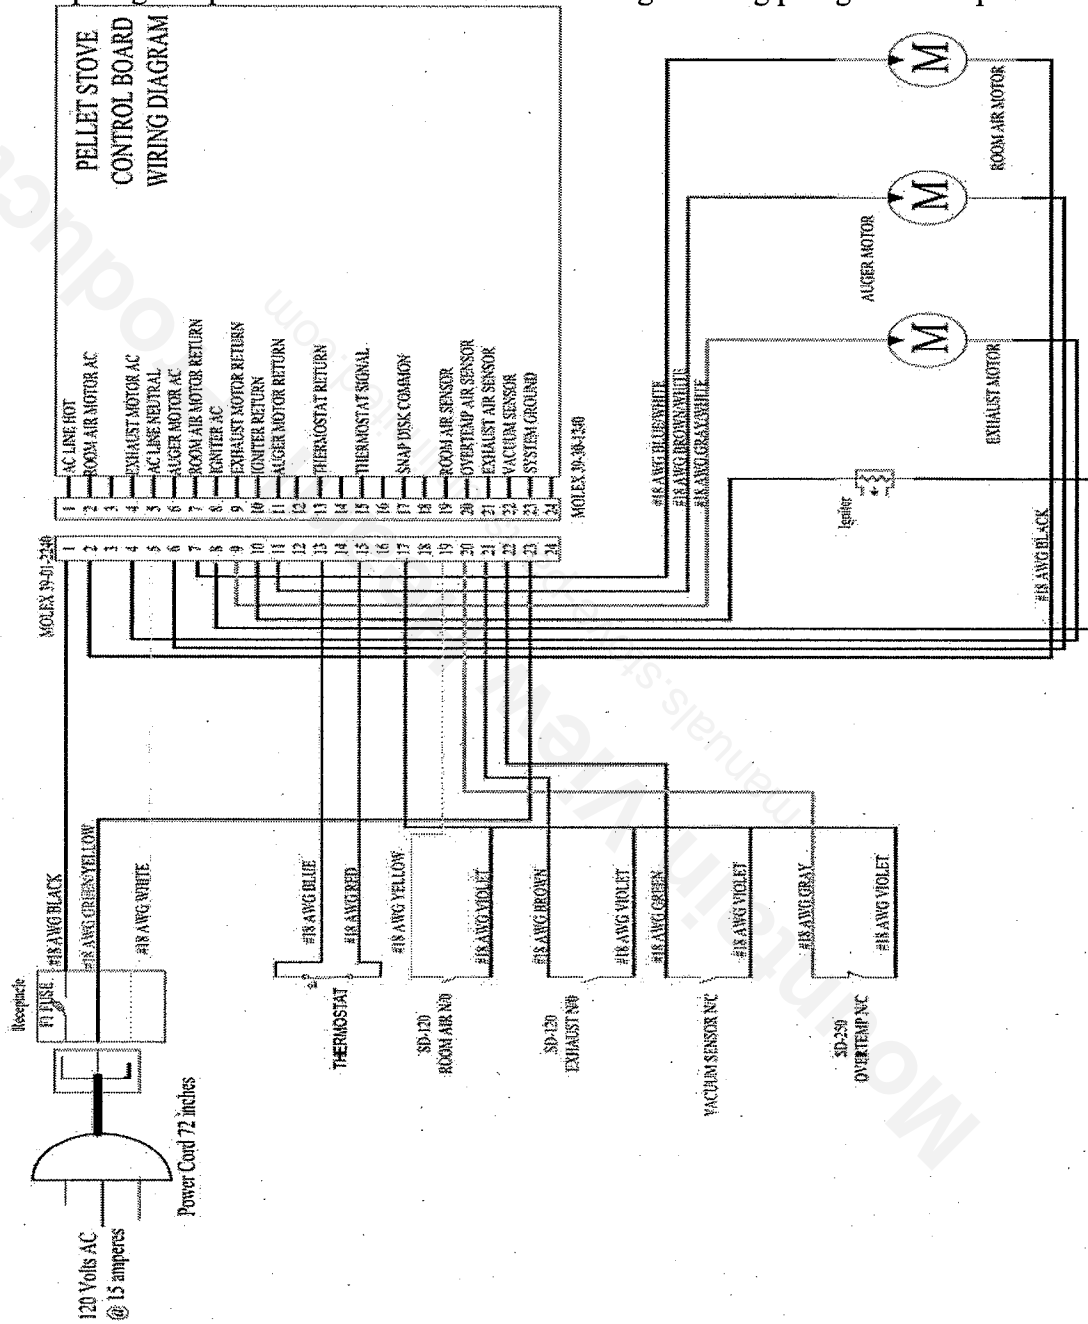

FIGURE 13: ELECTRICAL SCHEMATIC
1. FIGURE 13 is the electrical schematic. Ensure all electrical power lines and outlets are code compliant. In the absence of any local code, the National Electrical Code ANS2 / NFPA 70-1987 applies.